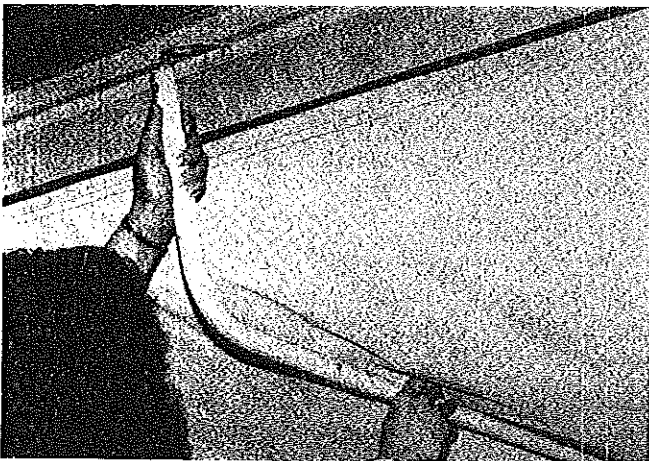

FIGURE 44
50. To completely support the tent enclosure over the bed (front and rear), attach the bed bow support by inserting the straight end into the bed bow. Insert the rounded end of the bed bow support into the roof retainer. See Figures 44 and 45.
9. Detach both front and rear bed bow supports from the roof retainer and from the bed bow. Lay the bed bow supports under each mattress. See Figure 44.